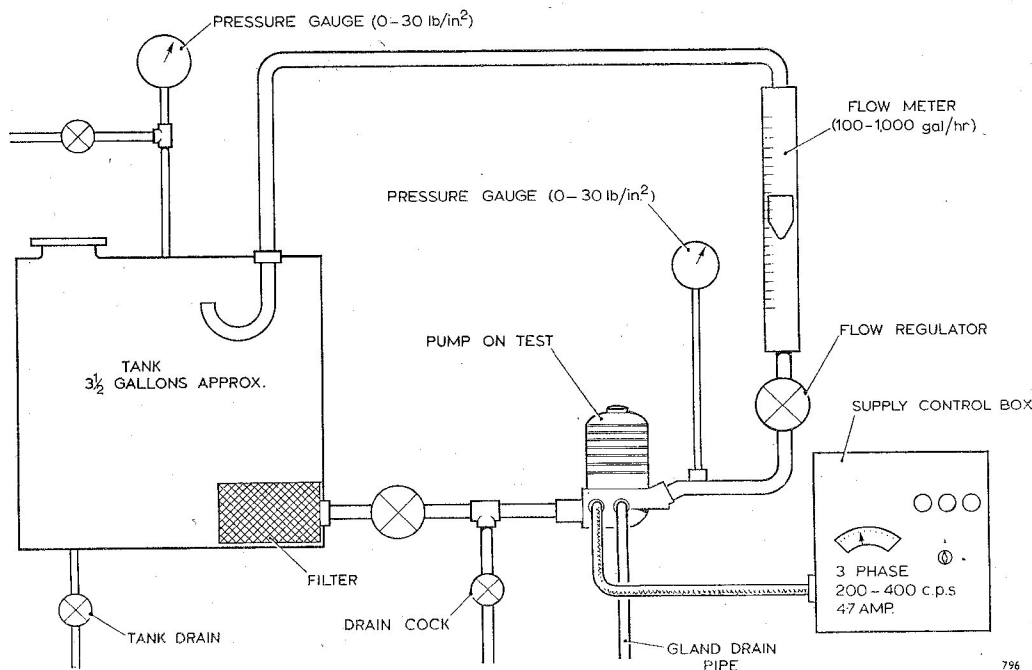

Fig. 7. Diagrammatic layout of typical test rig
26. The pump can be tested on the rig shown diagrammatically in Fig. 7 using a 38 parts water-to-62 parts glycol mixture maintained at 15 - 25 deg. C (59 - 77 deg. F.) The specific gravity of the mixture should be 1.07 - 1.08 at 15.5 deg. C (59.9 deg. F.).